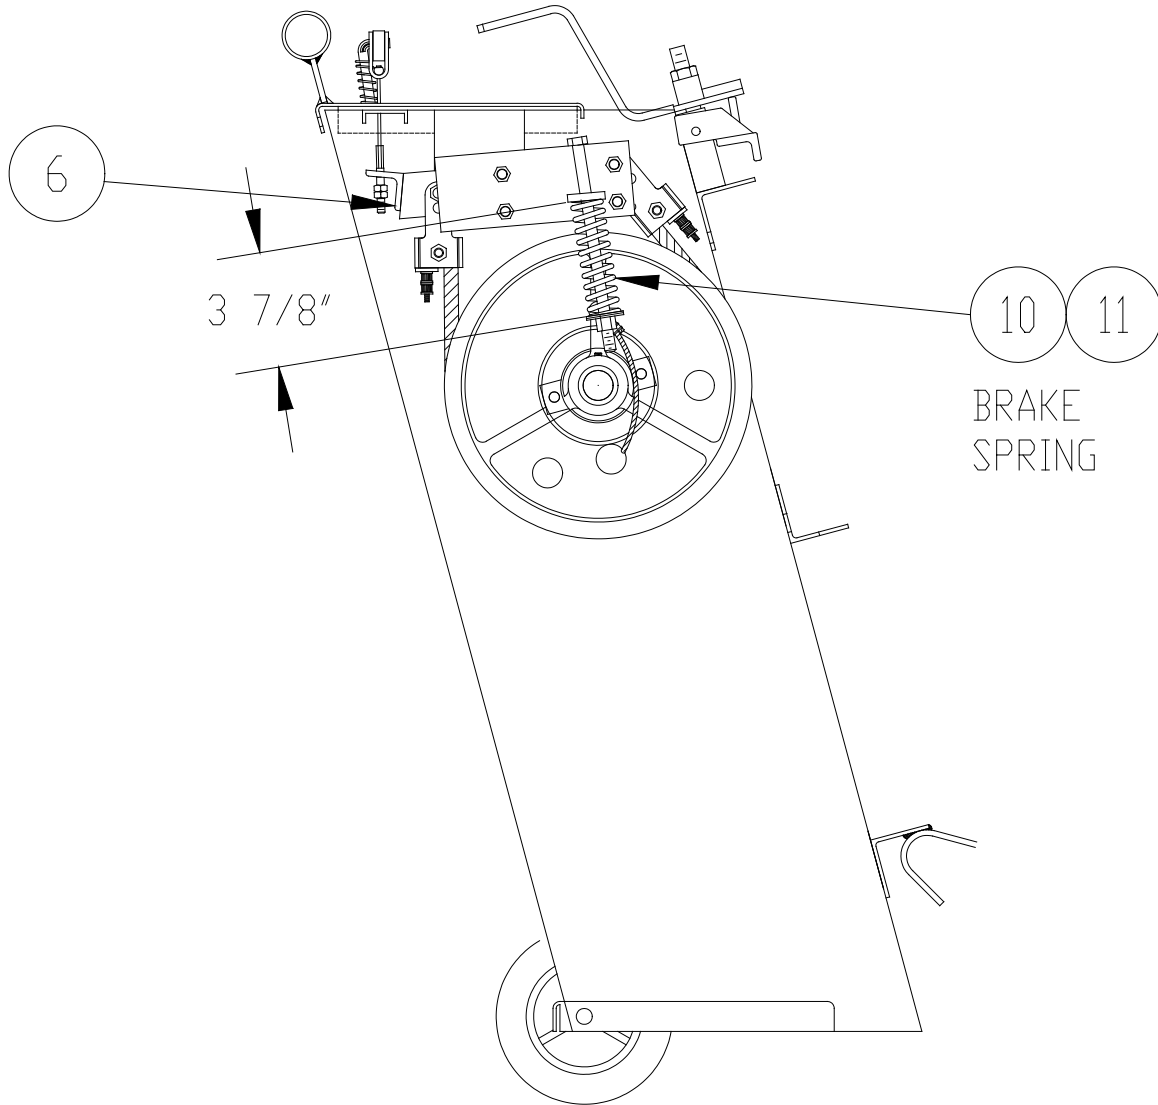

Figure 6-4.
1. Refer to Figure 6-4. Before making any cable adjustments, ensure that the brake spring (B/N 11) compression measurement is correct as described in section 6.10.
4. Refer to Figure 6-4. Measure the length of the compressed brake spring only (B/N 11), located on the back of the brake differential (B/N 9). The spring length should be three and seven-eighths inches long.